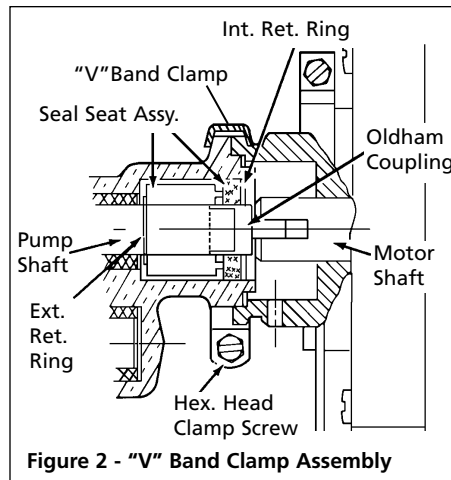

Figure 2 - "V" Band Clamp Assembly
**PUMP HEADS (NO MOTOR)** – Close-coupled gear pump heads are designed to direct couple to carbonator pump motors (See NEMA Spec. MGI-18.739, Dimensions of Carbonator Motor mounting). The face of this gear pump has been machined to match the carbonator motor face. Pump and motor held together with a stainless steel beveled “V” band clamp. Coupling of shafts is done by mating the carbonator motor’s slot with the pump’s slot using the Oldham coupling (See Figure 2). This positive displacement characteristic offers a wide range of applications.
1. Refer to Figures 2 and 3.
5. Slip the "V" band clamp over the pump and motor halves (See Figure 2) and tighten the hex head clamp screw to hold the assembly together.